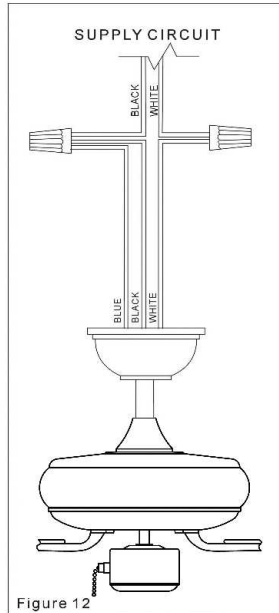

Figure 12
1. Connect the ground conductor of the 220~240V supply (this may be a bare wire or a wire with green colored insulation) to the green ground leads (s) the fan (Figure 12).